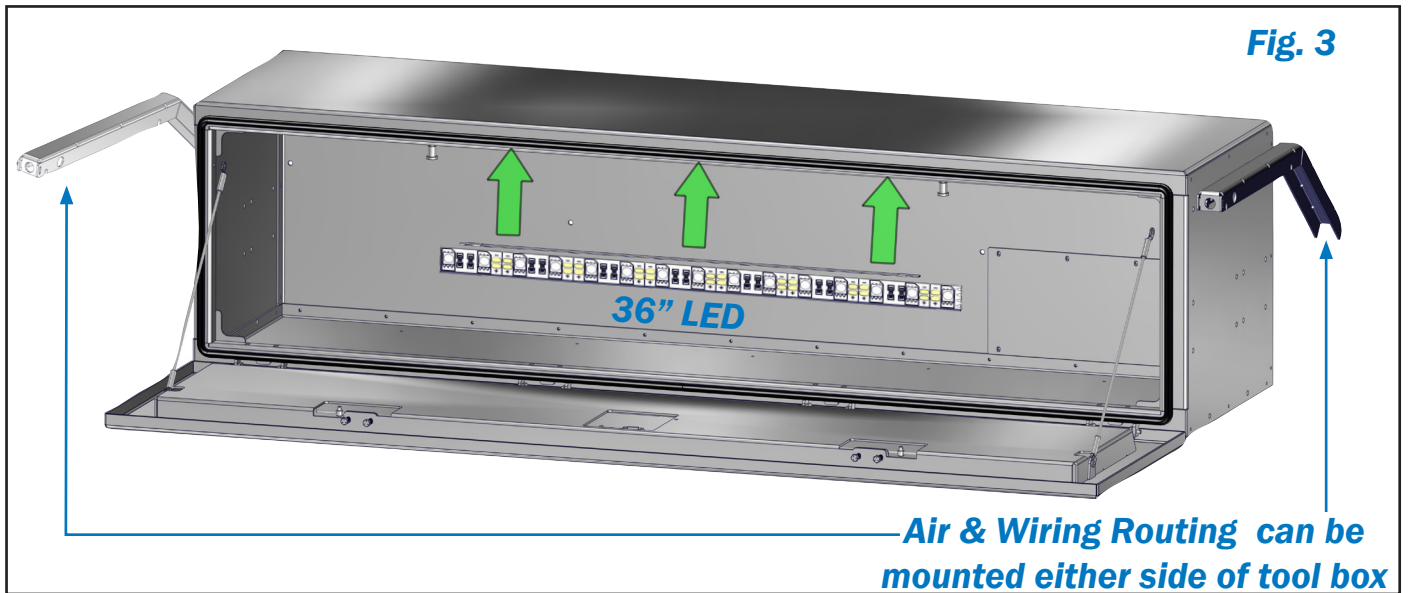

Fig. 3
- 4 Place L.E.D. Light Kit in tool box with pre-installed VHB Tape (Fig. 3)